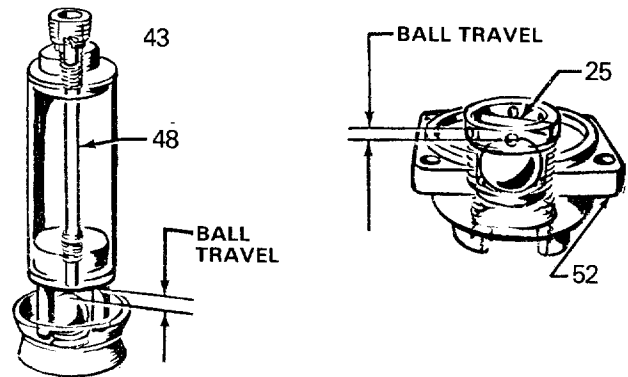

Fig 3
The fluid piston and intake valves are factory set for pumping medium viscosity fluids such as spray paint. Pin (25) in intake valve is in lower set of holes and piston ball travel is set at 0.19 in. (4.8 mm) (See Fig 3) or 4 complete turns of plunger bolt (48) from the top of piston ball. See Fig 4.
1. If heavy viscosity paint is used and erratic pump operation develops, increase ball travel in intake valve by moving pin (25) to center or upper set of holes, and in piston valve by backing out ball stop screw (48) 2 complete turns or 0.28 in. (7.1 mm) total travel. See Fig 3.
2. If extremely light paint is used and surging develops reduce surging effect by screwing in ball stop screw 2 complete turns or 0.09 in. (2.3 mm) total travel at piston valve. See Fig 3.
NOTE: If ball stop pin (25) or plunger bolt (48) are to be removed, note their position before removal and reinstall in proper location. See Fig 3 and 4.